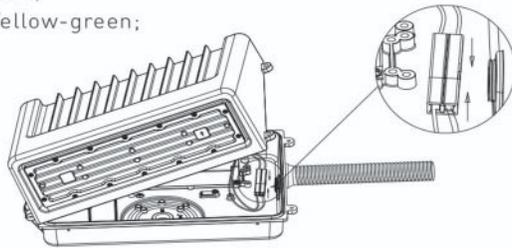

Fig. 2-4A
4. Connect the quick connect terminal, then screw the fixture with bottom plate(Fig. 2-4A&B).